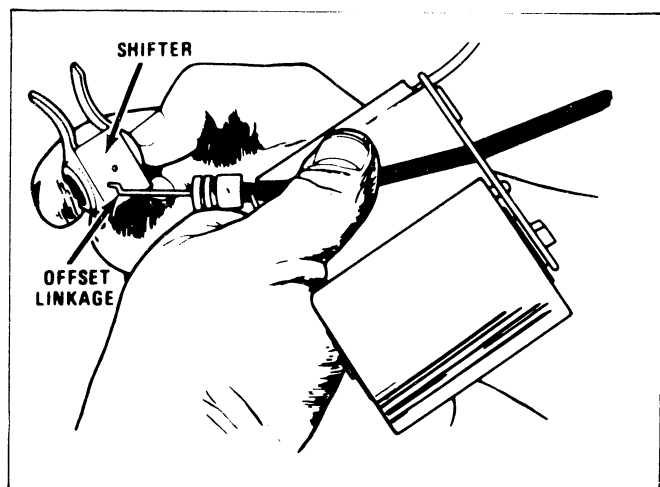

Figure B5
6. Slide the control cable through the idler housing until the shifter is clear of the housing, *Figure B5*.